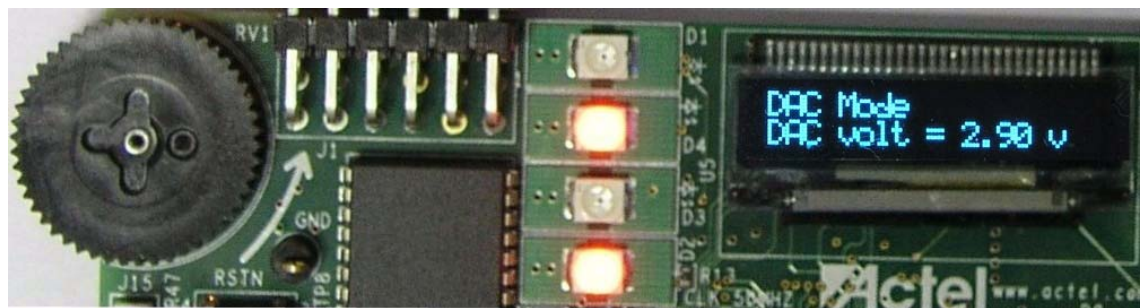

Figure 2-10 · DAC Mode – DAC Voltage Measurement
- Press SW3. The OLED displays voltage reading from the DAC (Figure 2-10).